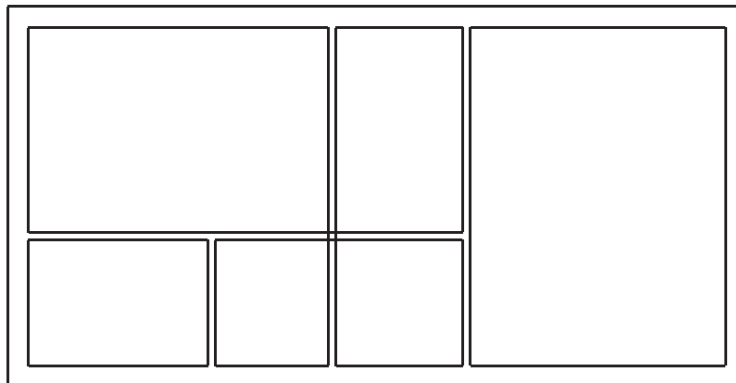

Figure 3-61 Complete building profile of the *Apartment 1* project with the exterior and interior walls
7. This completes the interior wall layout for the *Apartment 1* project. The model will look similar to that shown in Figure 3-61.